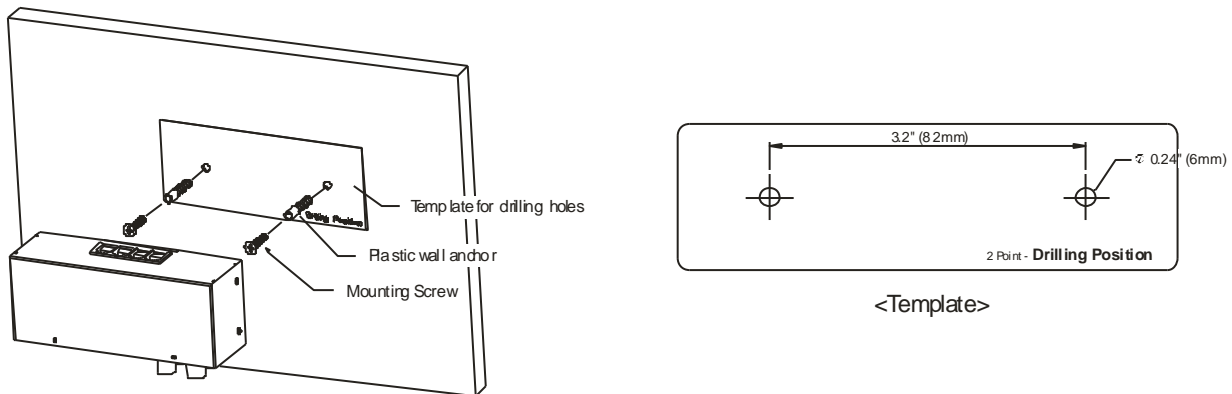

Figure 1
- A. When using the supplied plastic wall anchors, drill two 0.24" (6mm) holes spaced 3.2" (82mm) apart or use the template. See Figure 1.